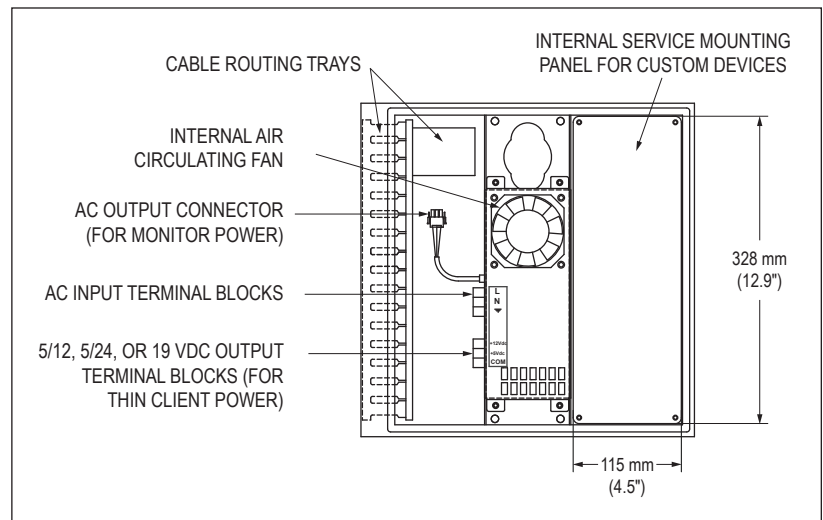

FIGURE 2 – INSIDE VIEW OF ENCLOSURE
2. Refer to Figure 2. Remove caps on Cable Routing Trays.
3. Refer to Figure 2. With power disconnected, hook up incoming power from mains supply to the AC input terminal blocks ("L" is black; "N" is white). Securely tighten terminal block screws.
5. Refer to Figure 2. Hook up AC power to the monitor using an HIS CCAC- __ cable (not included). Disconnect and discard the end of the cable with the NA plug. Plug the C-13 connector end of the cable into the power input port on the rear of the monitor. Route the cable in through the hole in the pedestal to the Thin Client / PC enclosure. Connect the Molex connector end of the cable to the AC output connector. Route cables through Cable Routing Trays.
- a. For Thin Clients or PCs with a power requirement other than what is provided, use the device manufacturer's brick power supply. Install the brick power supply to the internal service panel (shown in Figure 2) and connect the AC power side to the AC power input terminal block. After completing the installation, continue to step 13.
12. Refer to Figure 2. Hook the DC cable wires to the terminal block in the correct polarity [i.e. ground to COM (-)]. Connect the other wire to the appropriate 5, 12, 19, or 24 VDC terminal.